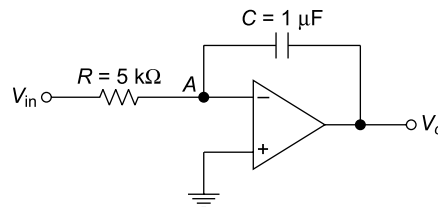

Fig. 5.39 Circuit of Ex. 5.19
5.19 Figure 5.39 shows an integrator circuit. Find out the output voltage when input voltage is $2 \sin 1000\pi t$ and show the output voltage waveform.